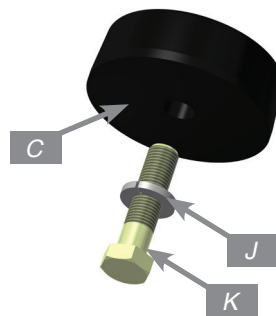

fig. 16
- Seat the airspring within the lower control arm/roll plate and align the threaded center of the airspring with the lower spring seat. Apply a long bolt (K) and lock washer (J) through the centering spacer (C) and into the underside of the control arm (fig. 16). Thread the bolt into the airspring (fig. 17), and torque to 27 Nm (20 ft-lbs.)